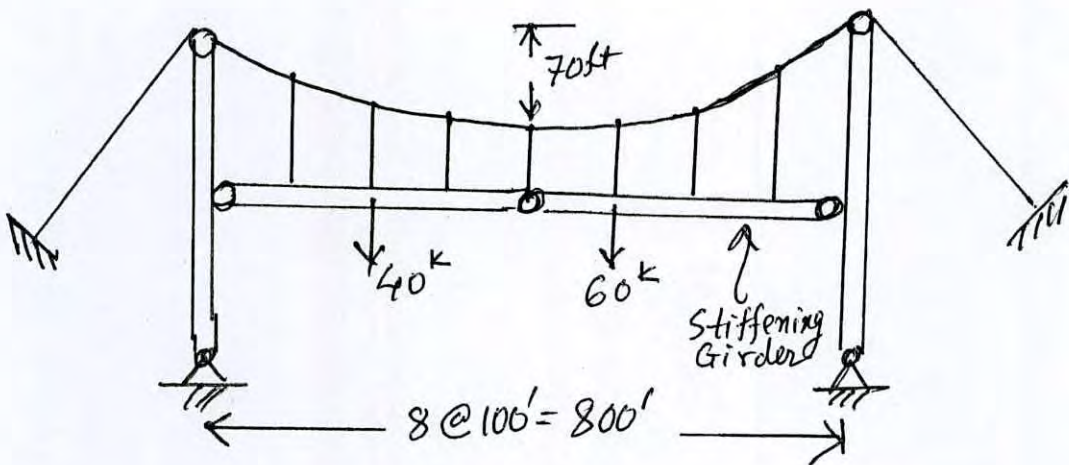

Fig. 3
4. Draw shear force and bending moment diagram for the stiffening girders of the suspension bridge shown in Fig. 3. (28)